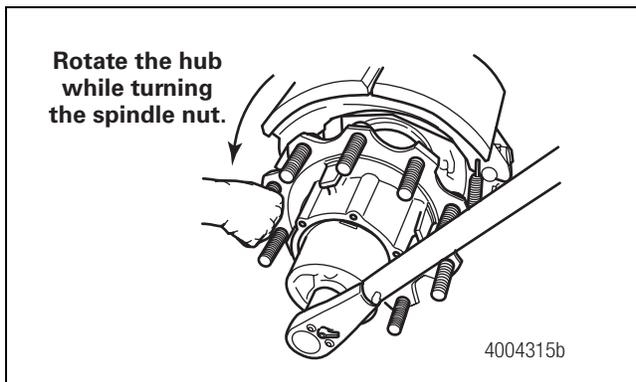

Figure 9
7. Tighten the spindle end nut to 810-850 lb-ft (1100-1150 N•m) while rotating the wheel and hub in a **COUNTERCLOCKWISE** direction. Do not back off the nut after tightening. Mark the nut location relative to the spindle. Figure 9. **⚠**